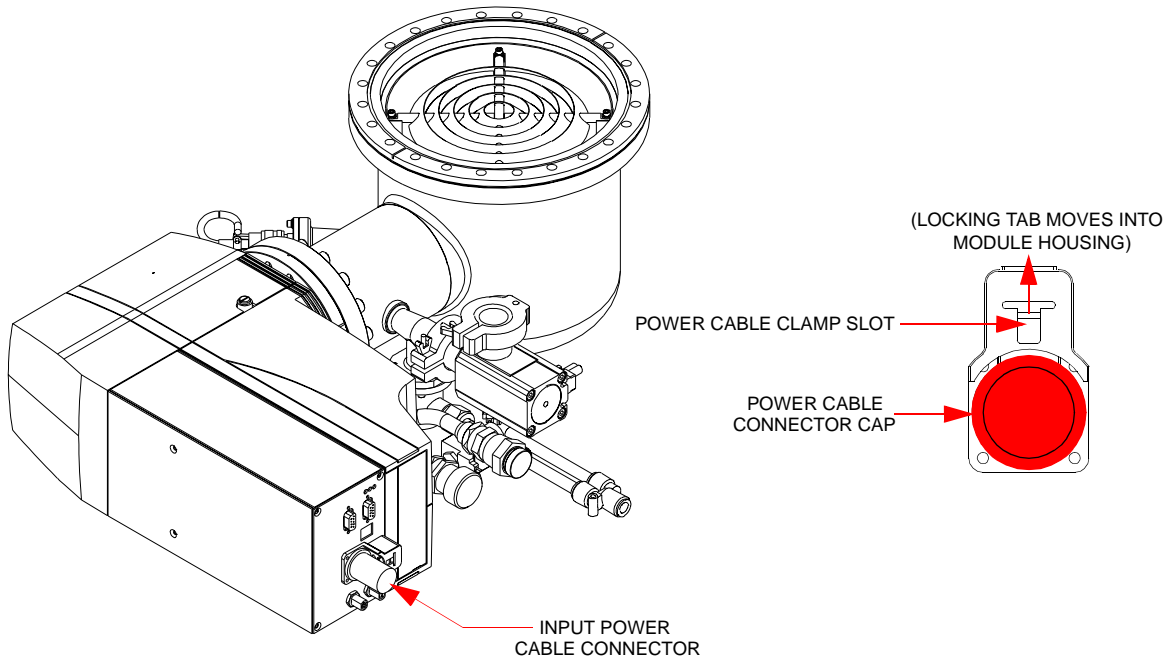

Figure 2-13: Input Power Cable Connection Point for the Module Power Connector
1. Insert a flat blade screwdriver into the power cable clamp slot on the On-Board *IS* Cryopump Module as shown in Figure 2-13.
2. Move the screwdriver away from the power cable connector cap in Figure 2-13.